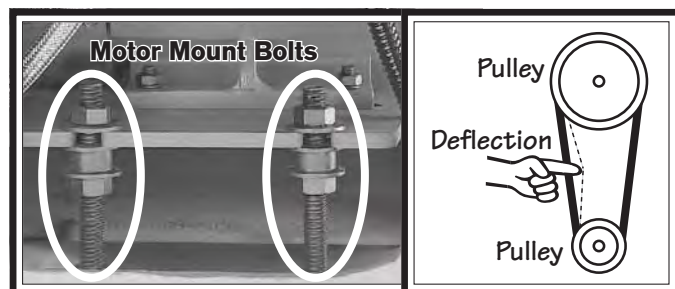

Figure 137. V-belt adjustment.
3. Turn the hex nuts on the motor mount bolts shown in **Figure 137** to move the motor mount plate up or down and adjust the V-belt tension. When correctly tensioned, each belt should have about $\frac{3}{4}$ " deflection when pressed firmly (see **Figure 137**).